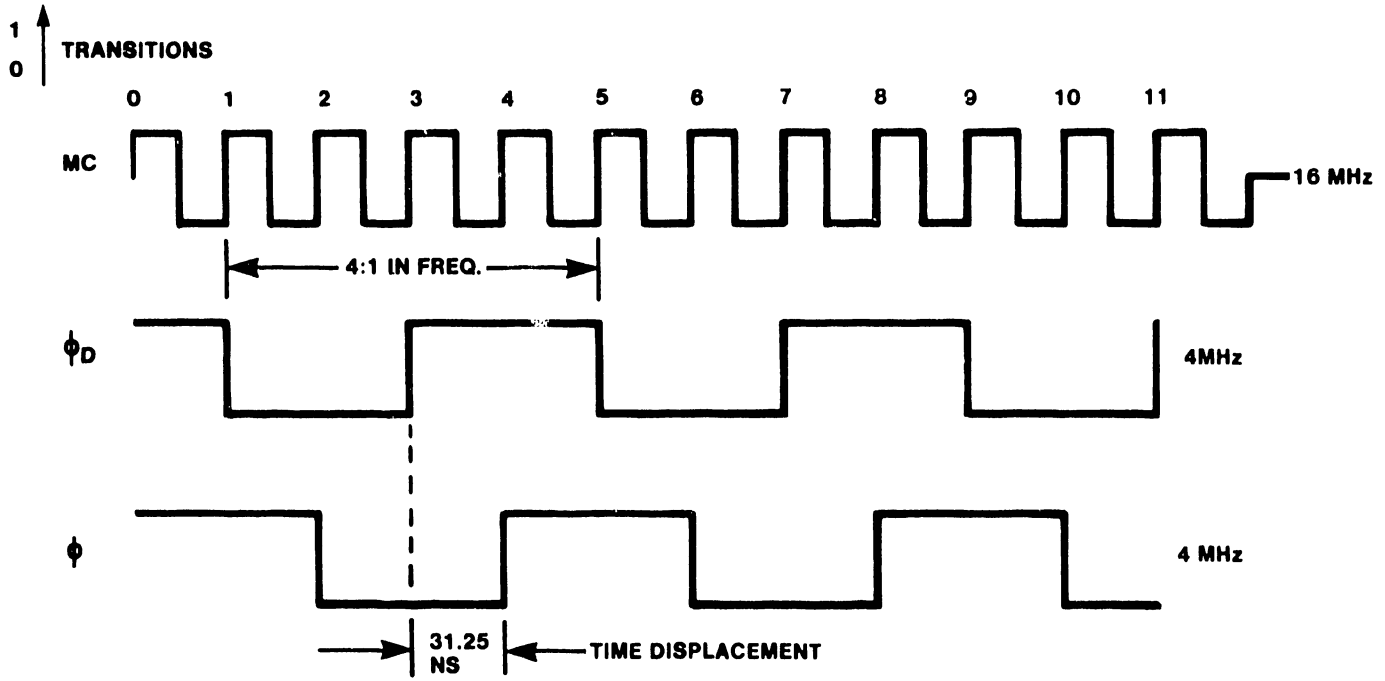

FIGURE 2-2 CLOCK OUTPUT
2.1 SYSTEM TIMING (see Figure 2-2)